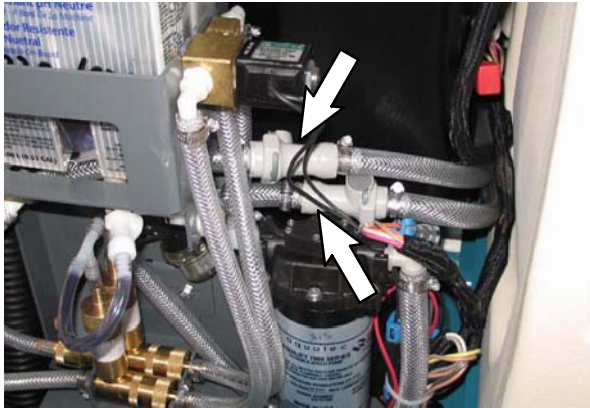

FIG. 1
1. Disconnect the hose to the scrub head and the solution supply hose from the FaST assembly. Refer to Fig. 1.